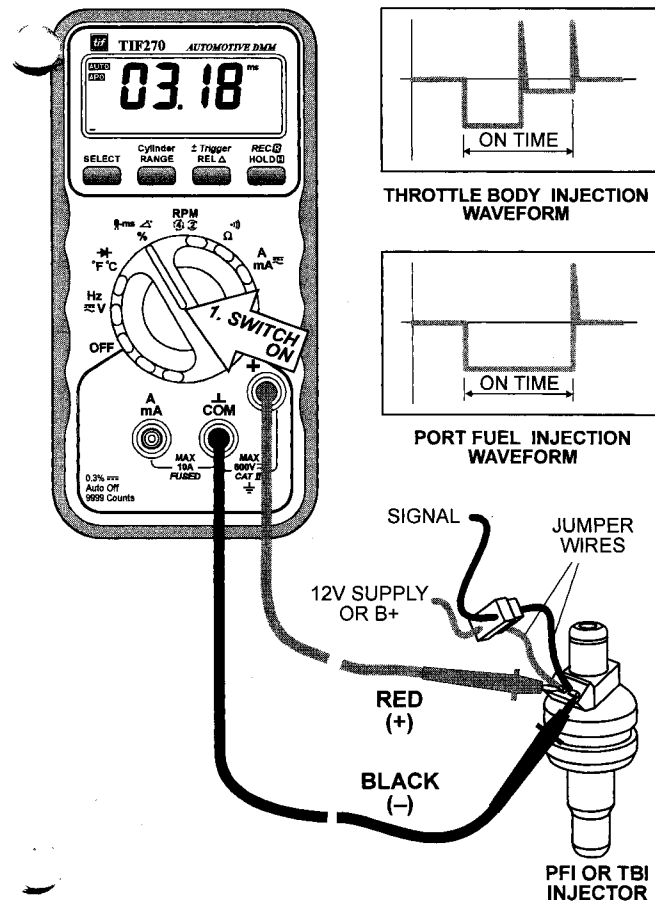

FIG 6. FUEL INJECTION DETECTOR
- 3) Connect the test leads as shown in **FIG 6** and observe the digital display